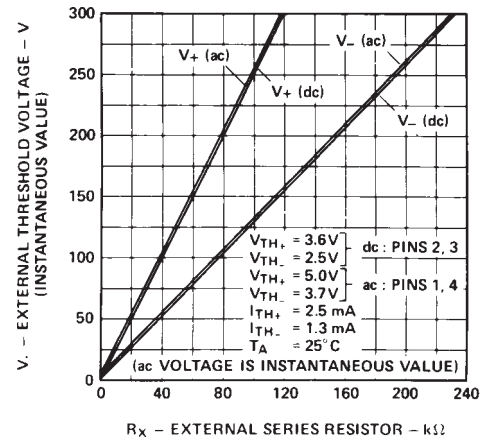
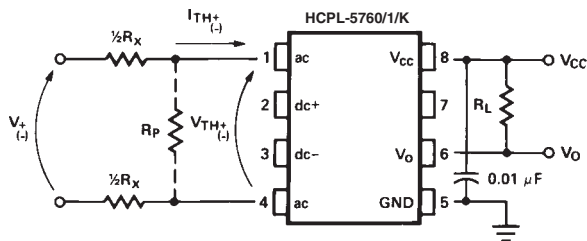

Figure 10. Typical External Threshold Characteristic, V_{\pm} vs. R_x .
Figure 11. External Threshold Voltage Level Selection.
The HCPL-5760, HCPL-5761, HCPL-576K or 5962-89477 optocoupler has internal temperature compensated, predictable voltage and current threshold points which allow selection of an external resistor, R_x , to determine larger external threshold voltage levels. For a desired external threshold voltage, V_{\pm} , a corresponding typical value of R_x can be obtained from Figure 10. Specific calculation of R_x can be obtained from Equation (1) of Figure 11. Specification of both V_+ and V_- voltage threshold levels simultaneously can be obtained by the use of R_x and R_p as shown in Figure 11 and determined by Equations (2) and (3).